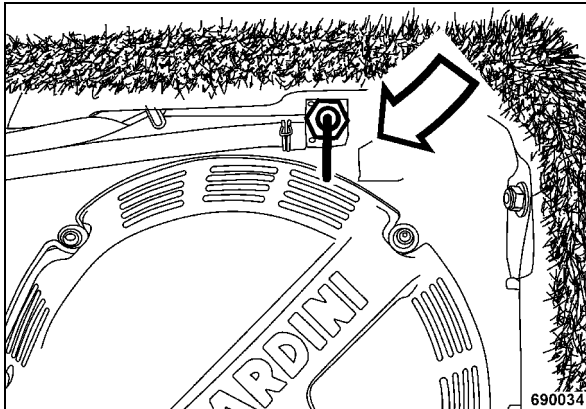

Fig. 64
- Open the fuel tap (Fig. 64), set the handle to vertical position.